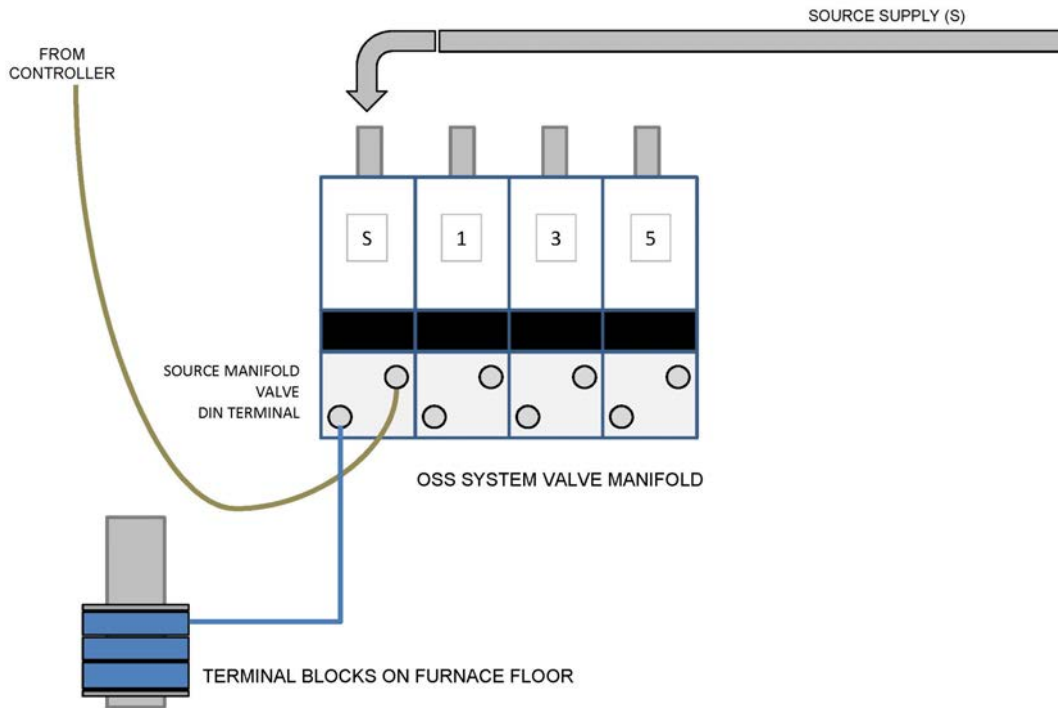
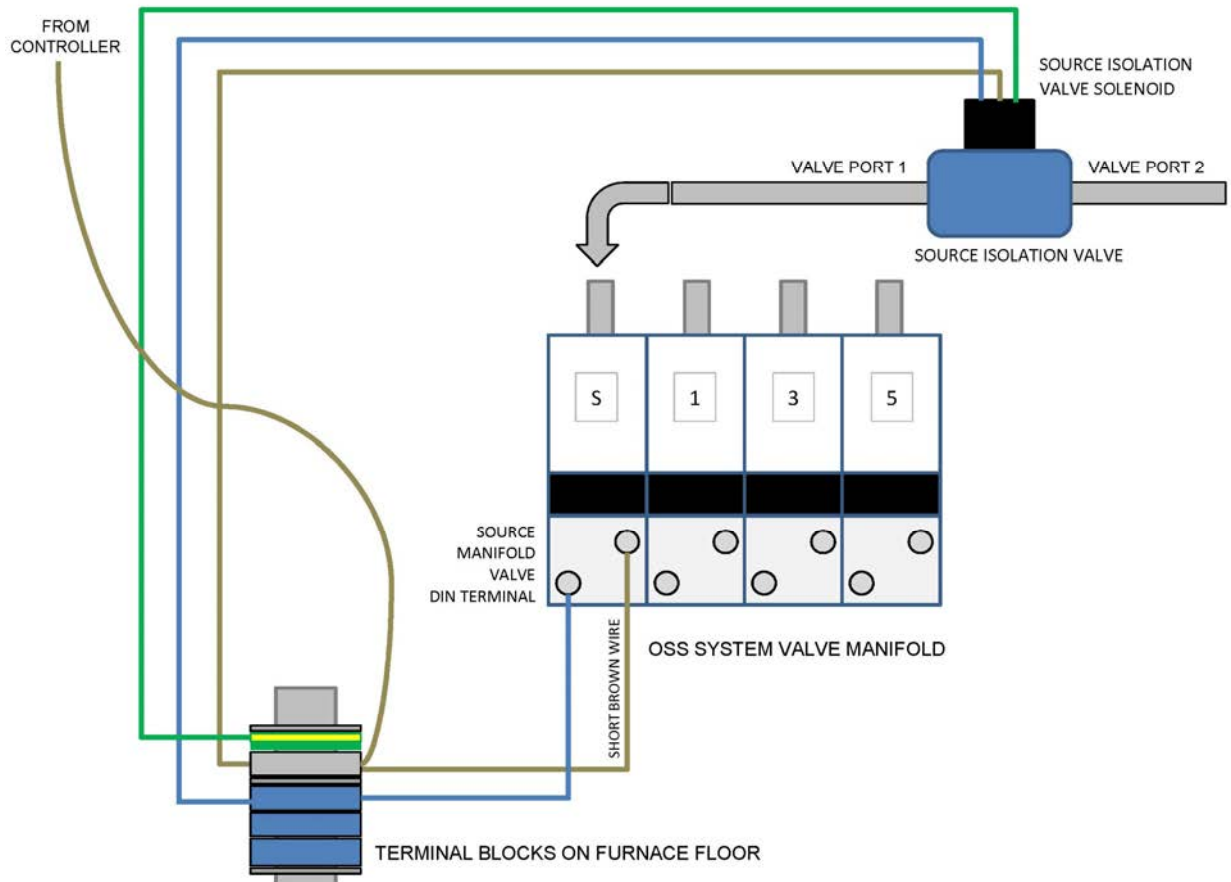

Figure 8-6. SOURCE MANIFOLD WIRING (EXISTING)
Figure 8-7. SOURCE MANIFOLD AND ISOLATION VALVE WIRING (AS-MODIFIED)
- f. Feed other end of short brown wire from kit through housing opening and connect to grey terminal block (Figure 8-7).
5. Connect the blue wire from the Source Isolation Valve solenoid to a blue terminal block on the furnace floor (Figure 8-7), any one will do.
6. Connect the green (or yellow/green) wire rom the Source Isolation Valve solenoid to the yellow/green terminal block on the furnace floor (see Figure 8-7).
7. Completed wiring should now look similar to Figure 8-7. Note: in Figures 8-6 and 8-7 wires for other port solenoid valves not shown for clarity.